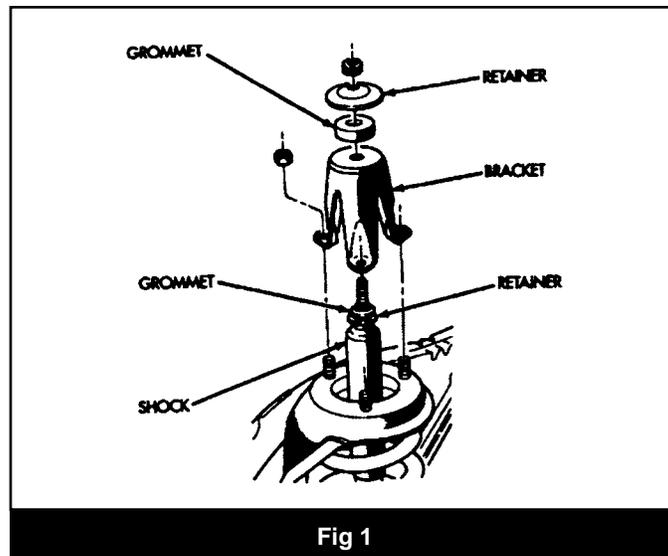

Fig 1
2. Open the hood and remove the upper shock stem nuts. Remove the three nuts mounting each of the shock towers to the frame (Fig 1)